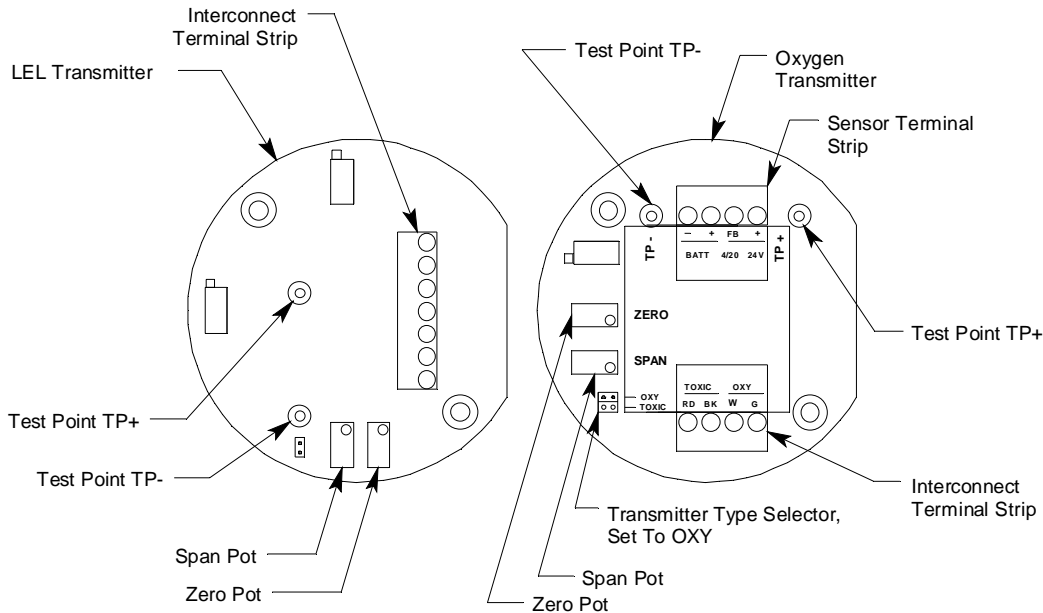

Figure 3: LEL & Oxygen Transmitters
The LEL transmitter is mounted to the left of the oxygen transmitter and above the main circuit board. It consists of the span pot, zero pot, one internally wired terminal strip, and the test points. Refer to Figure 3 on page 11.
The oxygen transmitter is mounted to the right of the LEL transmitter and above the main circuit board. The amplifier includes the amplifier type selector, two internally wired terminal strips, span pot, zero pot, and test points. Refer to Figure 3 on page 11.
3. Slightly loosen the screw that secures one of the mounting feet to the housing, then rotate the mounting foot 180 degrees (see Figure 3).